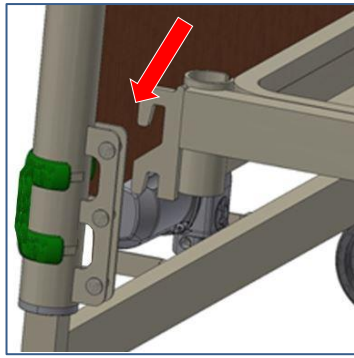

Figure 4: Foot section attachment
7. Lift the head platform section onto the head section (*figure 4*) and clip into the bracket. Ensuring that the head platform section is fully clipped in place.